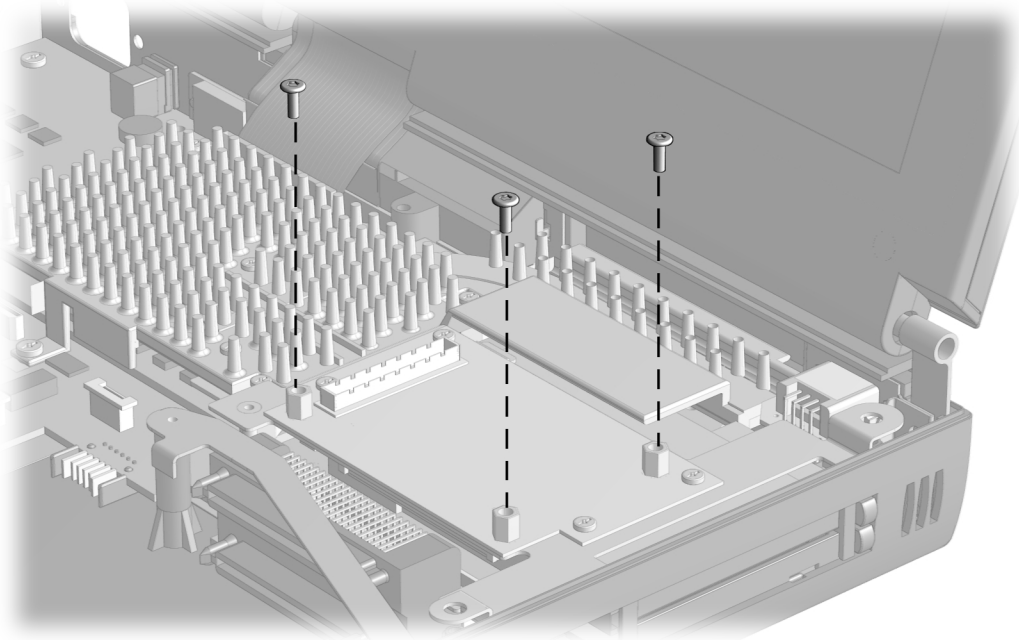

Figure 5-43. Removing the Mini PCI Riser Board Screws
6. Remove the three screws from the mini PCI riser board (Figure 5-43).